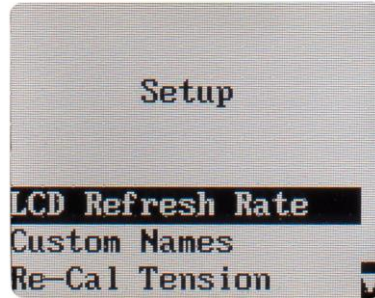

Figure 2
- b. Adjust the instrument’s “LCD Refresh rate” (found in the “setup” menu) to either: 1Hz + Serial, 2 Hz + Serial or 5 Hz + Serial if you want to capture and transmit continuous data. These settings allow “continuous” data to be uploaded at rates of: once, twice or five times per second. *(Figure 2.)* To upload either single point or continuous data which has been recorded in